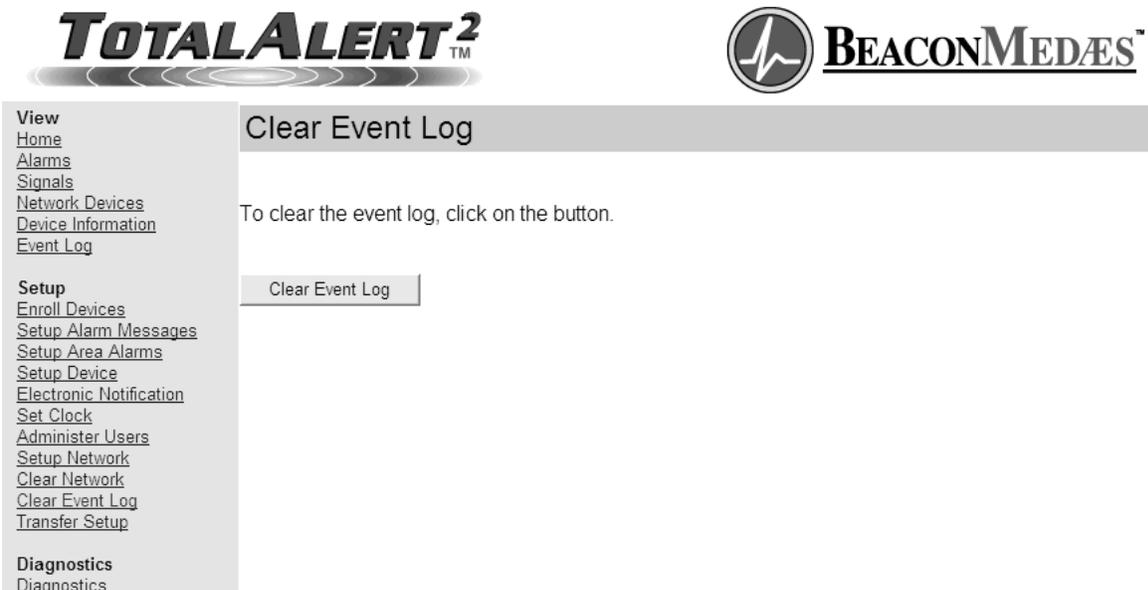

Figure 87: Clear Event Log
1. Click Clear Event Log to access the Clear Event Log page (Figure 87).